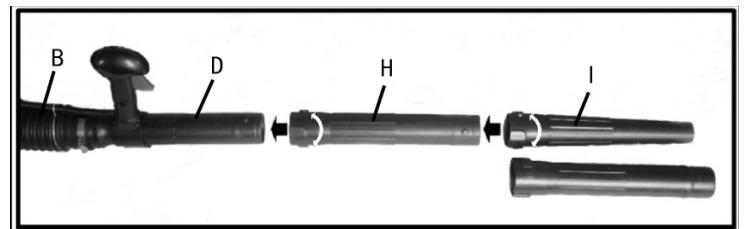

Fig.7
Connect the intermediate tube (H) and one of the two nozzles (I). Push the tubes together and turn them clockwise so that they lock together (Fig.7).